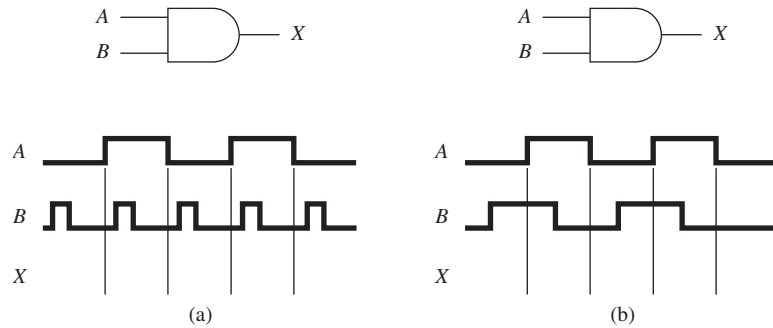

Figure P7
7. Sketch the output waveform at *X* for the two-input AND gates shown in Figure P7.